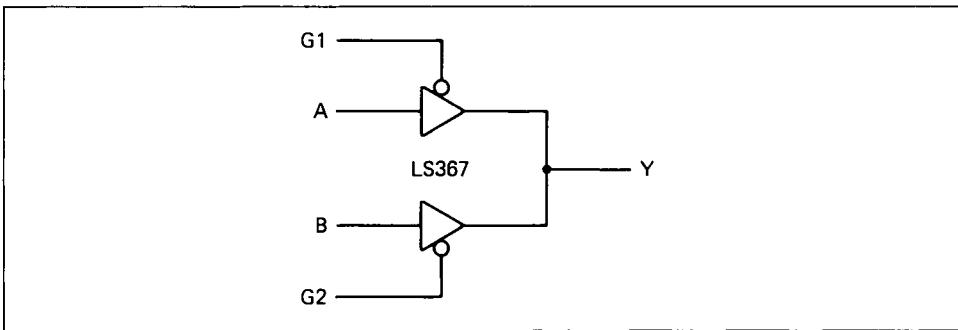

Figure 1.2 A tri-state logic circuit
As an example consider the 74LS367 chip. This is a buffer chip which can be tri-stated and has two identical halves each controlled by an enable signal (G), see Figure 1.2. The corresponding truth table below shows how the enables can be used to select between two lines of data, A and B.